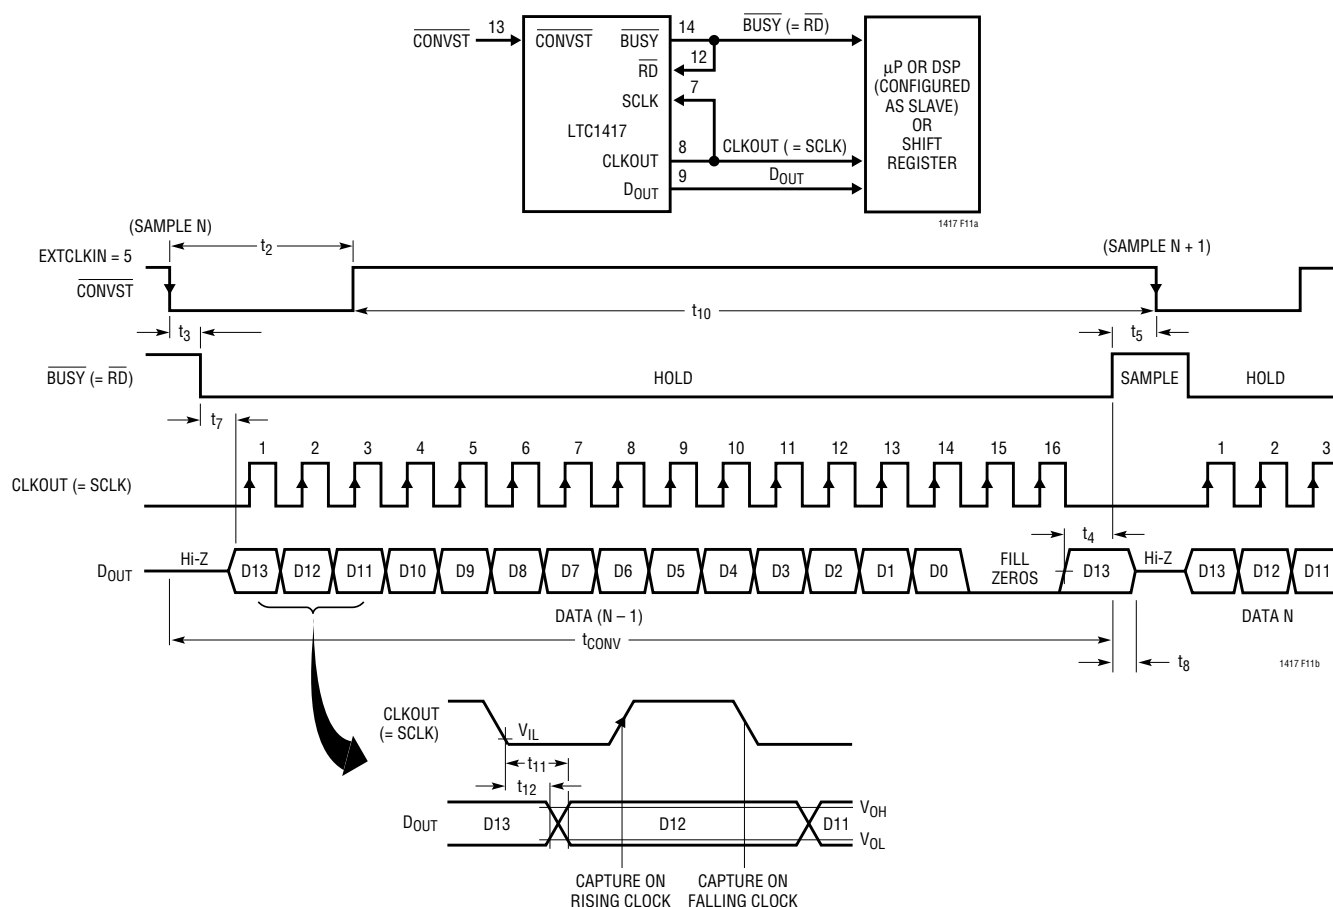

Figure 11. Internal Conversion Clock Selected. Data Transferred During Conversion Using the ADC Clock Output as a Master Shift Clock (SCLK Driven from CLKOUT)
Figures 11 to 14 show several serial modes of operation, demonstrating the flexibility of the LTC1417 serial port.
**Using Internal Conversion Clock for Conversion and Data Transfer.** Figure 11 shows data from the previous conversion being clocked out during the conversion with the LTC1417 internal clock providing both the conversion clock and the SCLK. The internal clock has been optimized for the fastest conversion time, consequently this mode can provide the best overall speed performance. To select